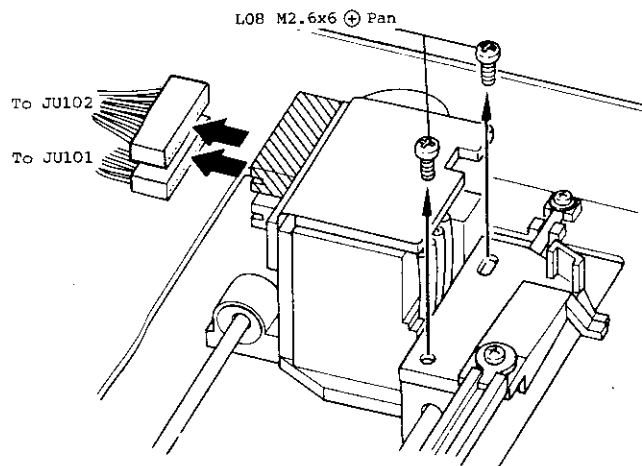

Fig. 2.2
- (4) Remove LOB and two connectors. See Fig 2.2.